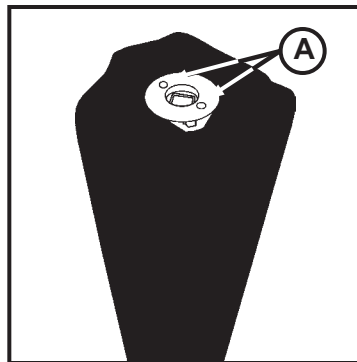

FIGURE 2
11. Remove the (2) screws and cap plate (Shown as “A” in Figure 2).